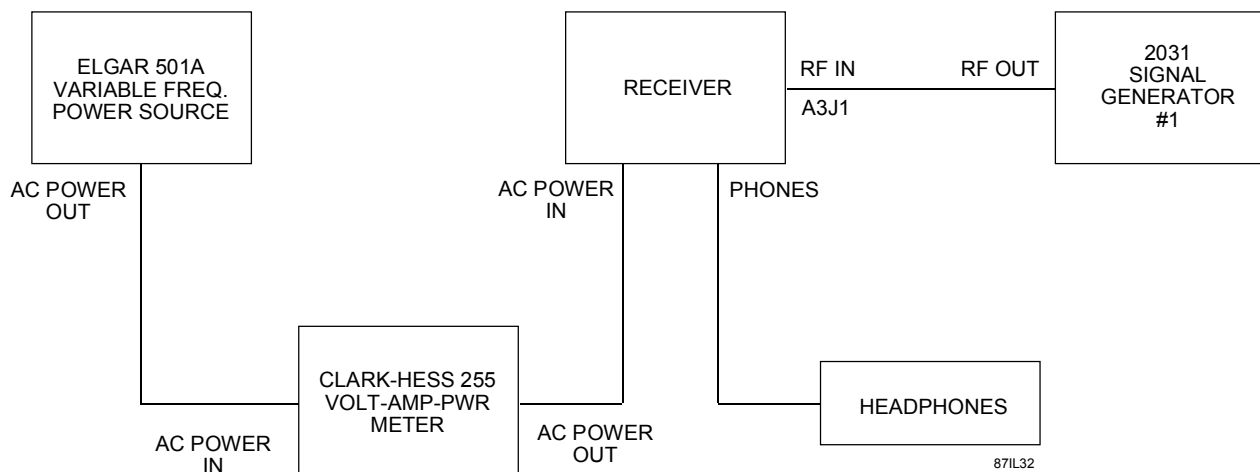

Figure 7-1. Power Consumption Performance Test Equipment Connection
1. Connect the WJ8711A Receiver and test equipment as illustrated in **Figure 7-1**.